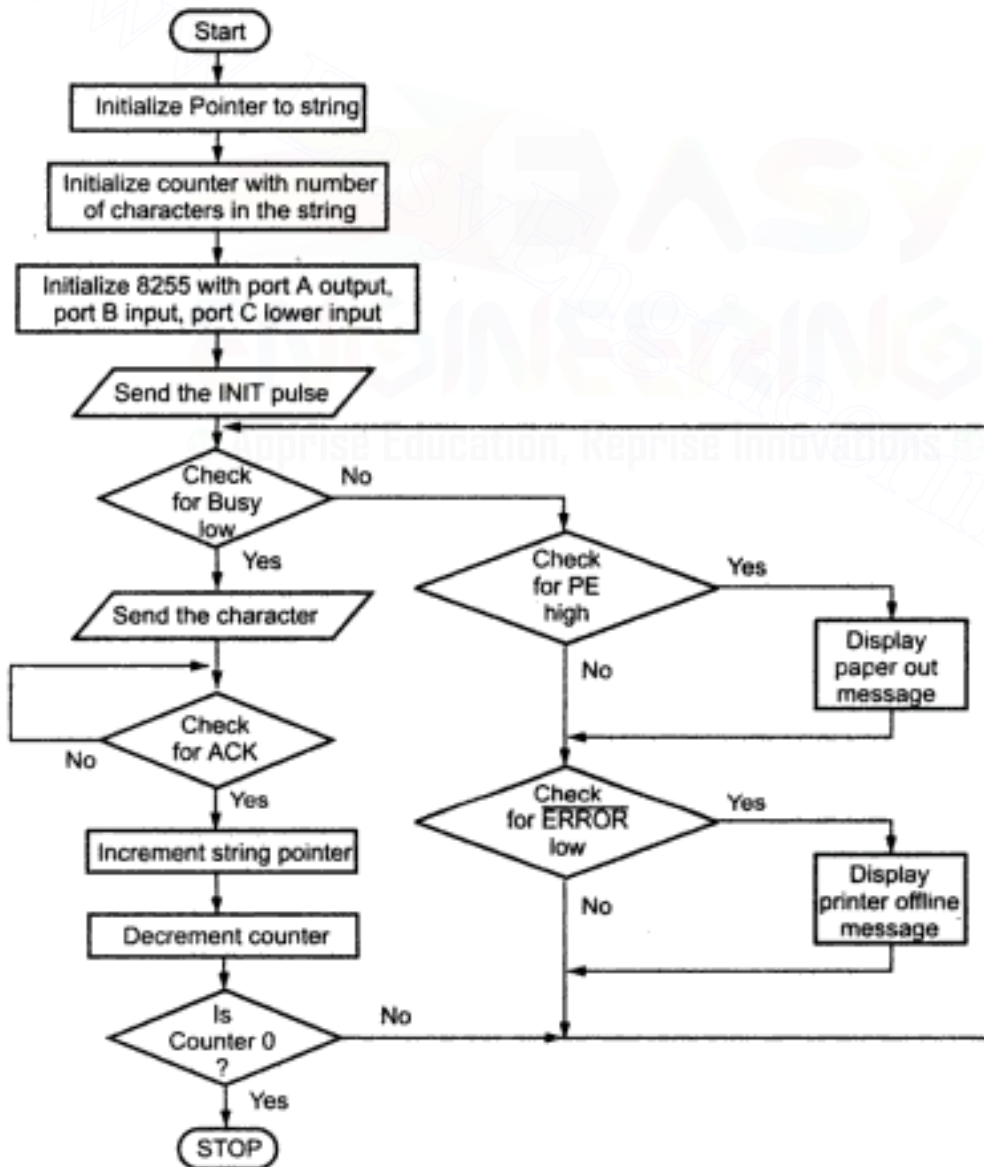

Fig. 7.56 Flowchart for printer interface
**Flowchart :** Fig. 7.56 Flowchart for printer interface.